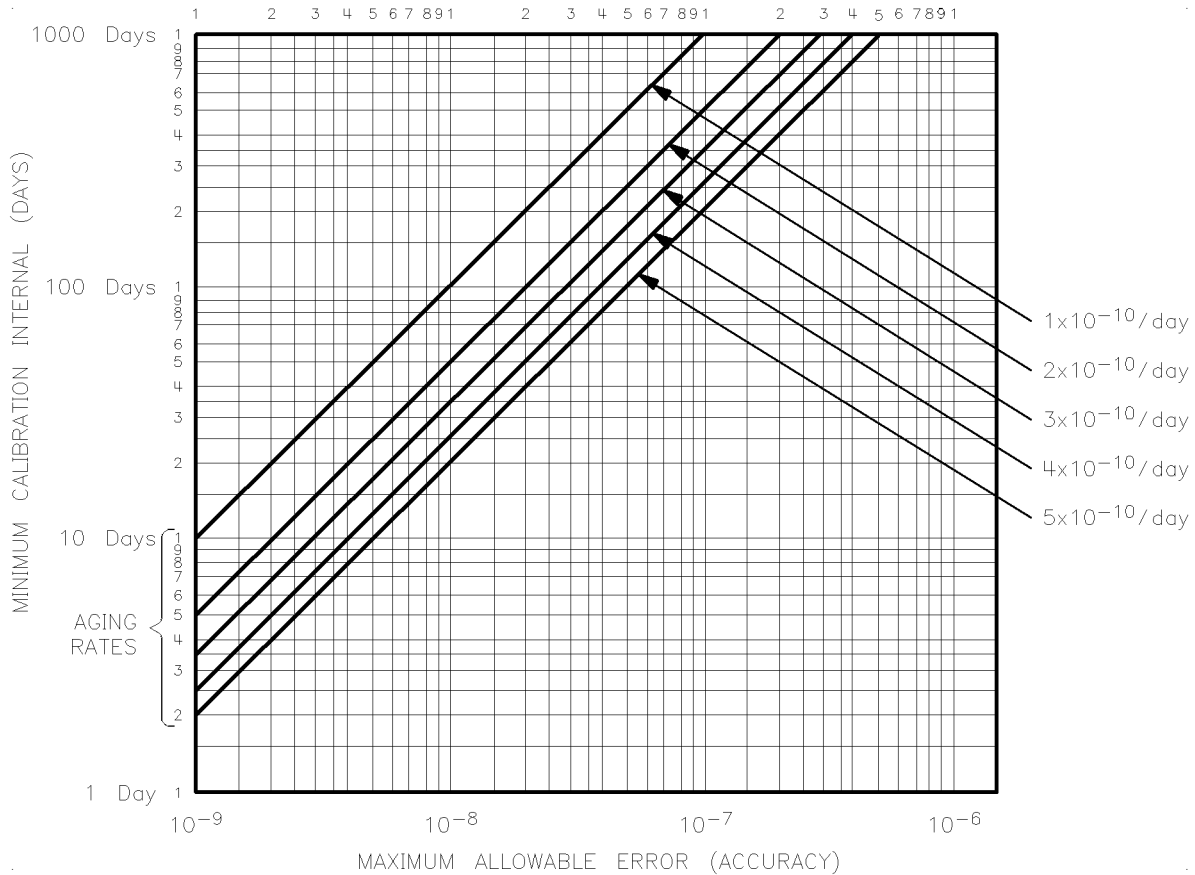

Figure 3-3. Accuracy Versus Adjustment Interval
This procedure adjusts the frequency accuracy of the internal 10 MHz time base. This adjustment should be done on a regular basis if absolute frequency accuracy is important (see Figure 3-3.)
Figure 3-3 shows the required adjustment interval to maintain a given accuracy. If you know the aging rate, you can determine a more precise adjustment interval.
1. Find the line on Figure 3-3 that corresponds to the 10 MHz timebase oscillator aging rate. (To determine the aging rate, see “Performance Tests.”)